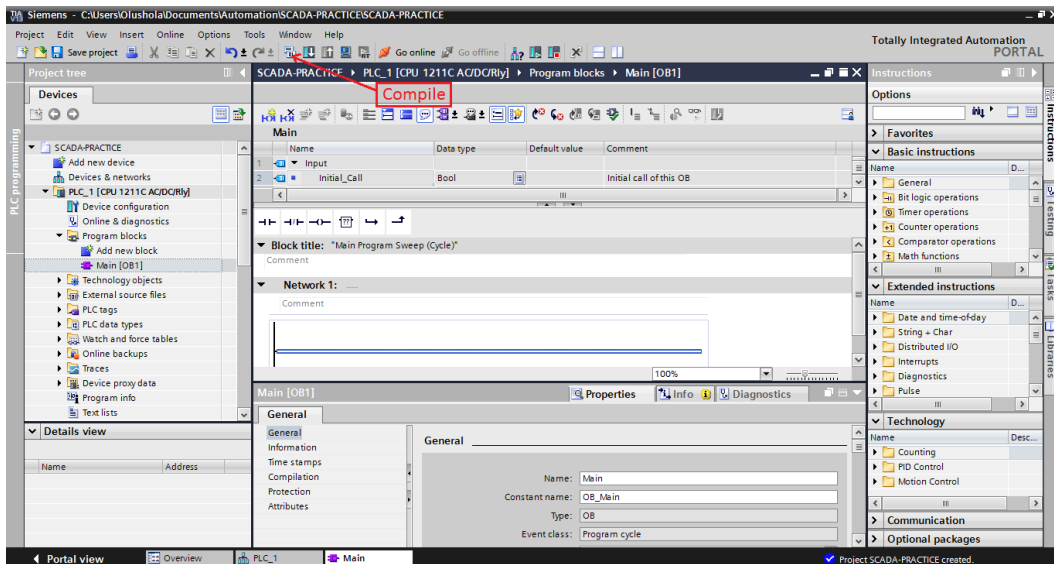
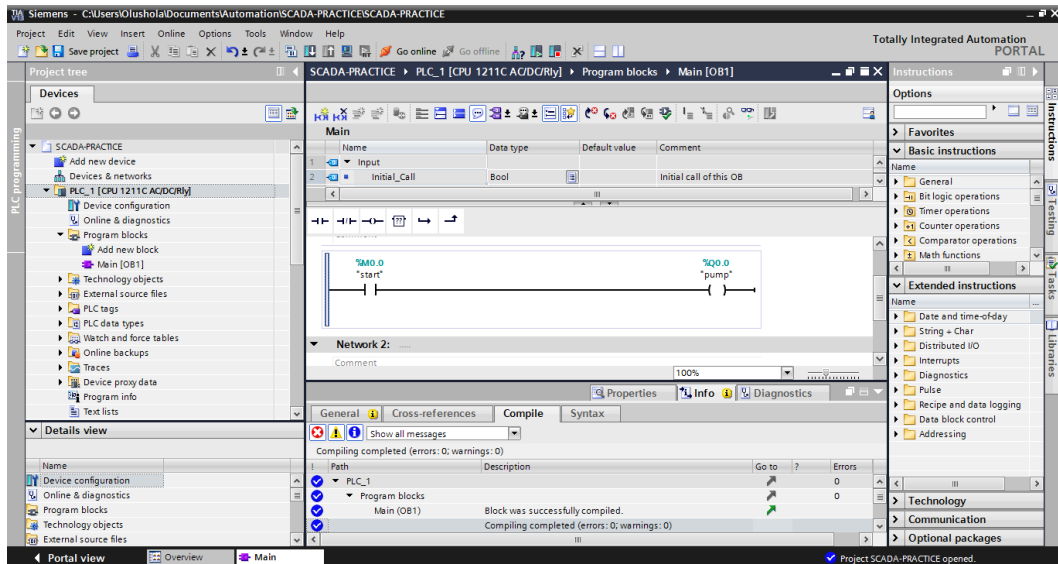

Figure 11.13 – A ladder logic programming environment
Figure 11.14 – The program written and all tags renamed
6. Write your program and rename all tags, as shown in the following screenshot (*Figure 11.14*). We are using a simple program to understand the operation of SCADA. Click on the **Compile** icon (the icon pointed to in *Figure 11.13*):